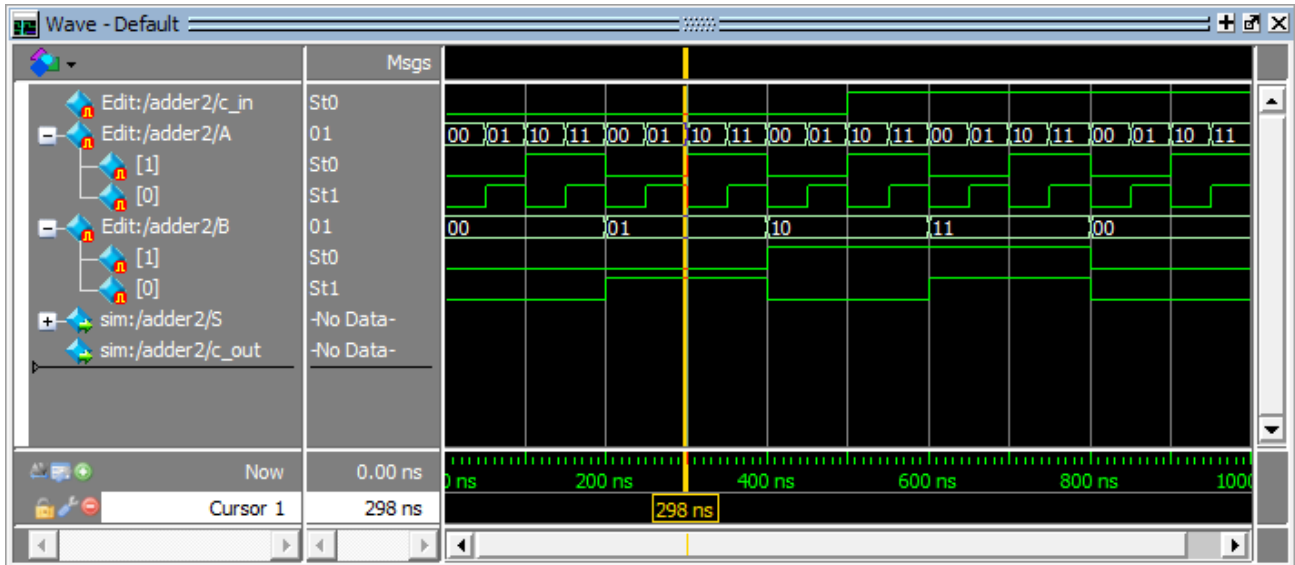

Figure 11
-> **Wave -> Selected Signals** to add them onto the waveform (alternatively, just drag them from the *Objects Window* to the *Wave Window*). Your waveform should now look like Figure 11. Between the changed in the three signals, all possible input combinations to the circuit are represented. Save the testbench as `wave1.vwf`.